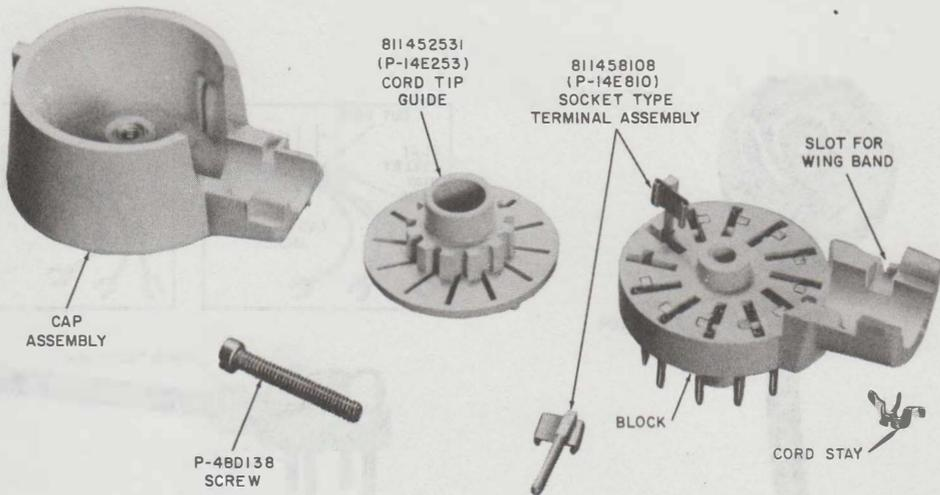

Fig. 47—504A Plug Disassembled
3.06 The 504A plug (Fig. 46) is a 12-terminal plug consisting of a molded plastic block, cord tip guide, and cap assembly held together by one screw. Each terminal is equipped with a socket-type connector to receive the cord tip. A cord tip guide covers the terminals. The terminals are numbered 1 through 12 and match numbering on the 541A jack. The plug can be inserted into the jack in only one position. It is available in colors shown in Table C. Included with the plug is a metal cord stay designed for use with cords equipped with a wire S hook (Fig. 47). The S hook is removed and discarded. The cord stay, inserted into the vacated band hole, serves as a wing band. Slots are provided on the plug block and shell to hold a wing band or the cord stay. The wing band or cord stay seated in the slot prevents the mounting cord from slipping out of the plug.